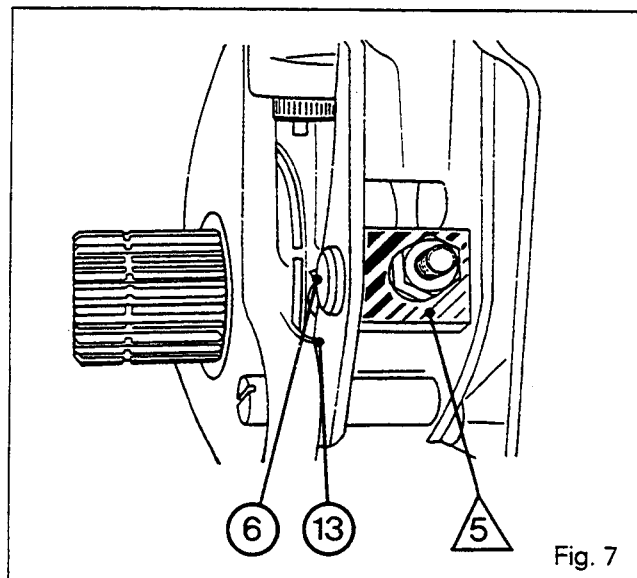
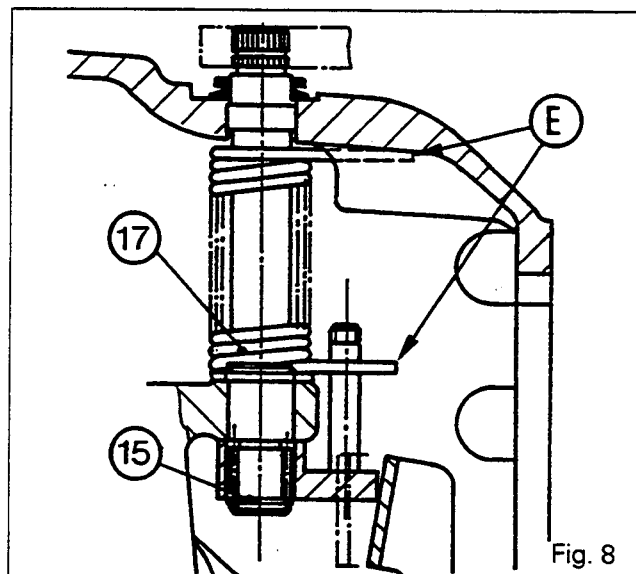

Fig. 7
Fig. 8
36. Refit the clevis (7) prepared with the stud (3) and the pin (8). Replace the split pin (9).
37. Fit the lever (13) with its pin (6) on the stud (3) of the clevis.
38. Refit the plate /5\, tighten the nut (4).
**Note: The plate /5\ is rectangular. It must be positioned horizontally, lengthwise, on the pin (6) in the lever (13) to be correct (Fig. 7).**
39. Replace the discs (30), placing the mechanism (31) between them.
**Note: Fit the lever (13) on the finger (23). Check that the discs slide freely on the bevel drive pinion (26).**
40. Place the retainer ring (21) (if removed) on the shaft (20).
41. Fit the shaft (20) in the closing plate (24) with the washer (22) and the spring (17).
43. Check that the discs (30) and the mechanism (31) are correctly positioned.
44. Fit and tighten the screws (25) to a torque of 90 - 120 Nm.
45. Fit the cam (14) with its finger (16).
46. Fit the circlip (15). Replace the spring (17), positioning its ends E as indicated in Fig. 8.